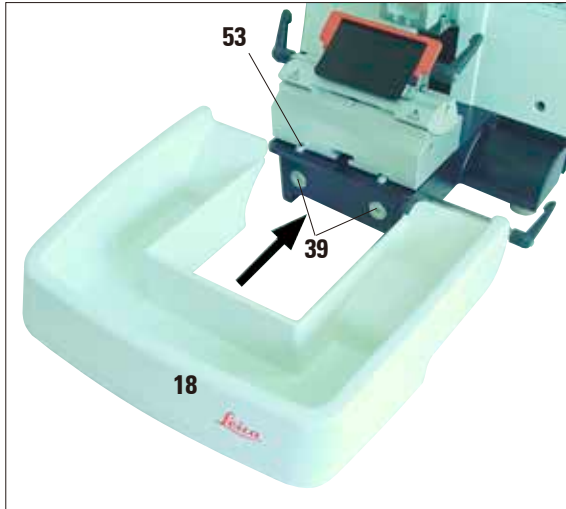
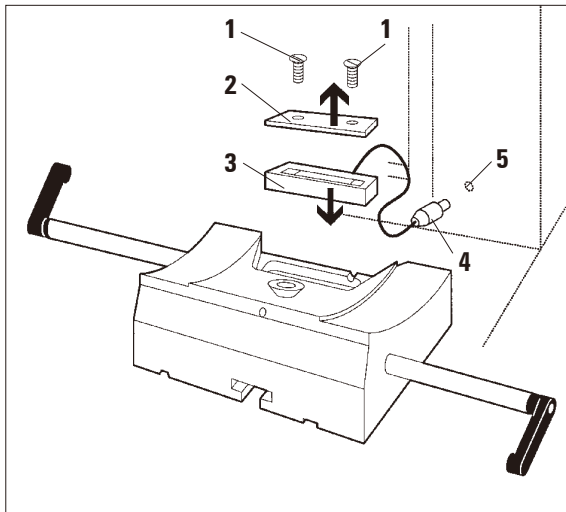

Fig. 53
Fig. 54
- Open the screw (3) on the horizontal arm of the microscope carrier in a counterclockwise direction.
- Insert the silver connection piece (1) as far as it will go. Tighten the screw (3).
- The adapter (2) allows a fiber-optic light guide to be installed.
- The instrument illustrations in Fig. 53 and Fig. 54 are an example only.